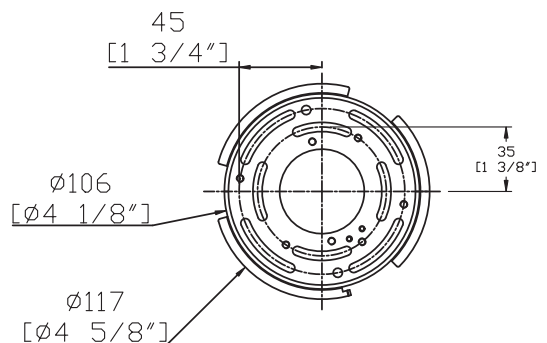

Fig. 2 Wiring
CONNECTING THE WIRES (Fig. 2)
6. Connect the driver's input wires to junction box wires as shown in Fig. 2, make sure that all wire connectors (A) are secured. If your outlet box has a green or bare copper ground wire, connect the fixture's ground wire to it. Otherwise, connect the fixture's ground wire directly to the back plate using the green screw provided. After wires are connected, tuck them carefully inside the junction box.